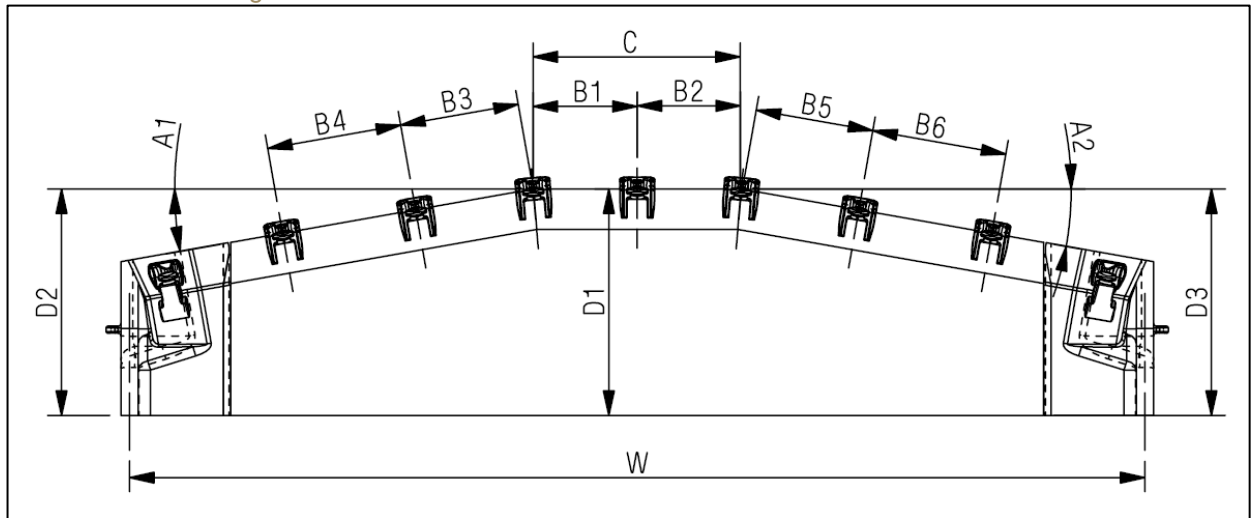

Figure 37 Fabricated lip key dimensions
3.2.1. Inspect the fabricated lip key dimensions shown in Figure 37. Dimensional values must be as per the lip layout drawing. Tolerance as per standard AS1100-1992 applies for all measured dimensions. Refer Figure 38 for details.